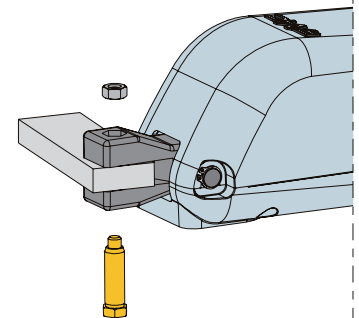

Fig. 11
- 8) Fix the operator to the rear bracket by means of the supplied pins as shown in Fig.11.